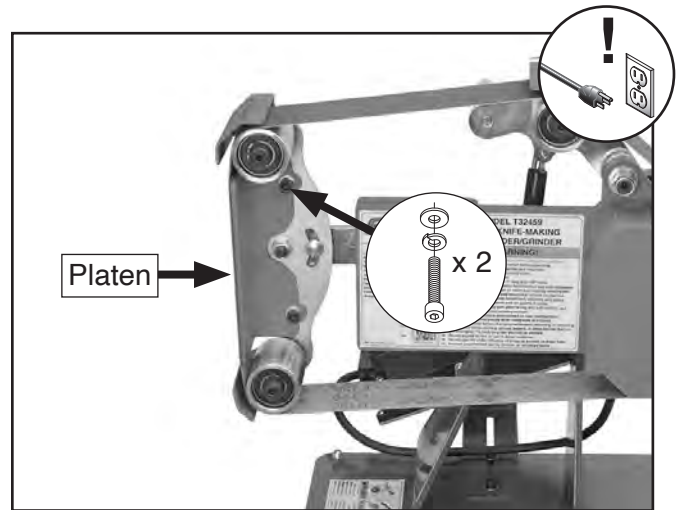

Figure 42. Location of platen and fasteners.
2. Remove (2) cap screws, lock washers, and flat washers shown in **Figure 42** to remove platen.